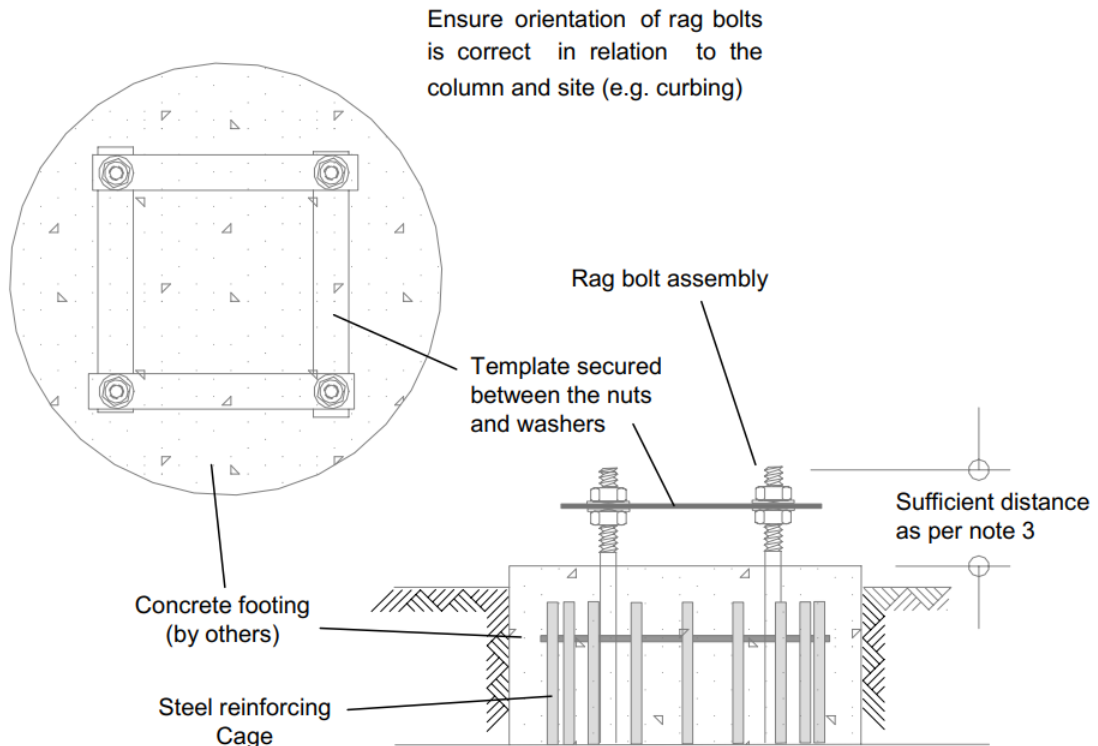

Fig 1
- 2) Our rag cages come complete with one bolt template on the rag bolts which must be securely fitted prior to pouring the concrete for the footing (see Fig 1). This will ensure that the rag bolts will line up with the base plate. Failure to use a template will make it difficult to achieve the required bolt spacing and could result in the entire footing needing to be replaced.